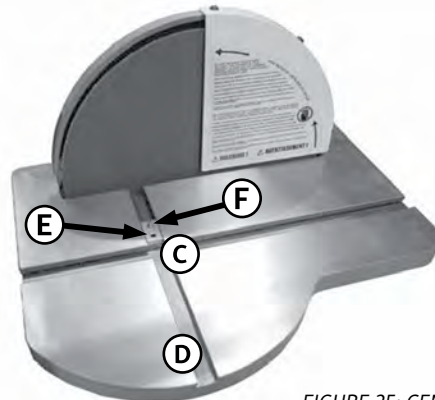

FIGURE 25: CENTRE POINT
The sander includes a **CENTRE POINT (C)** for sanding circular workpieces. See Figures 25 and 26.